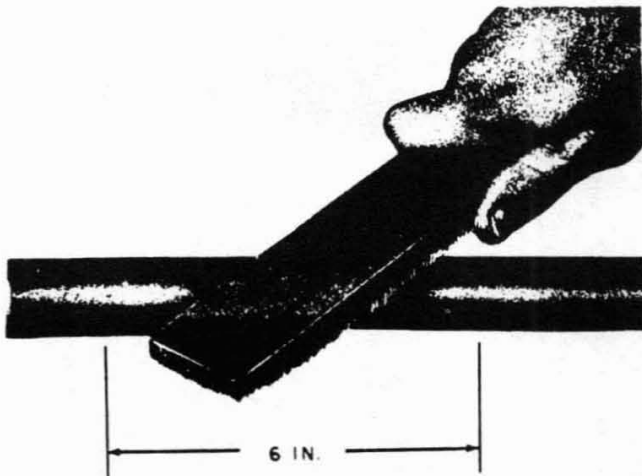

Fig. 19—Scuffing Sheath
- (1) With a B carding brush, scuff the sheath around the entire circumference for a distance of approximately 6 inches (Fig. 19).